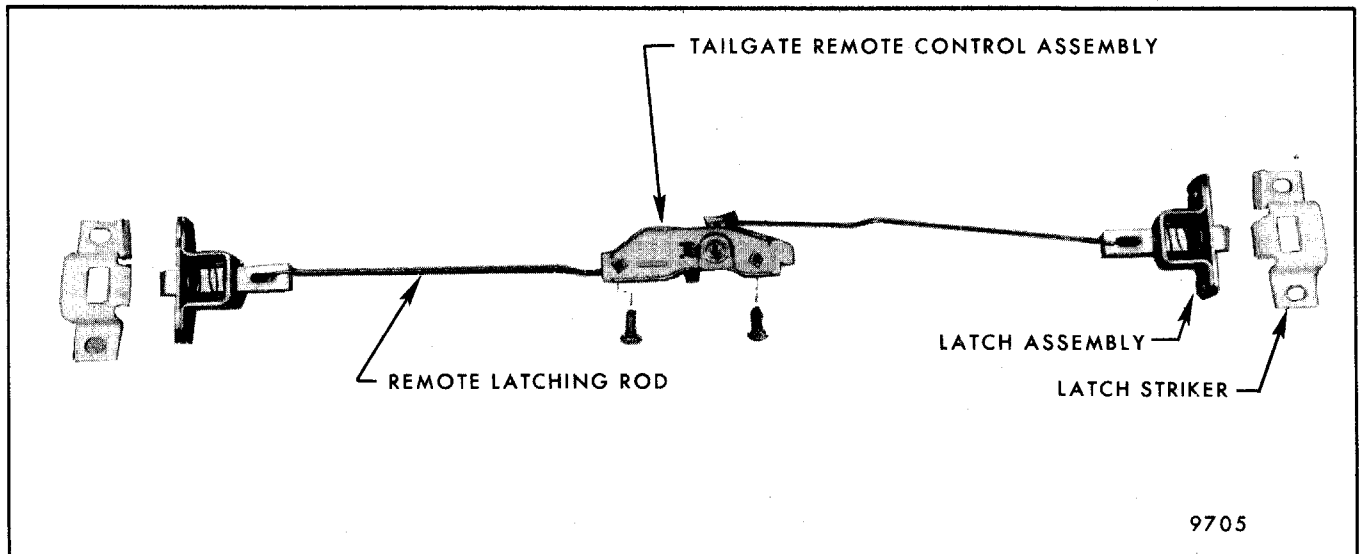

Fig. 7-100 - Tailgate Hardware Components A-80 Style
4. Remove remote control attaching screws and withdraw assembly from tailgate through license plate pocket hole. Refer to Figure 7-100 showing hardware components removed from tailgate.